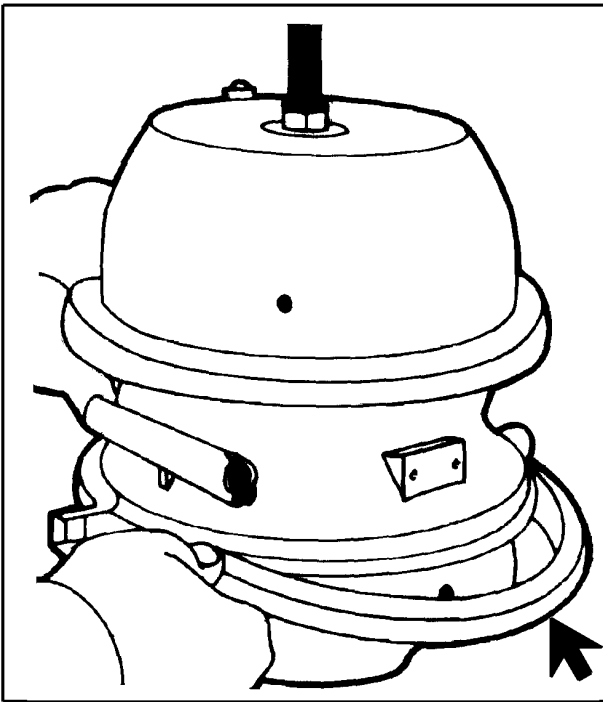
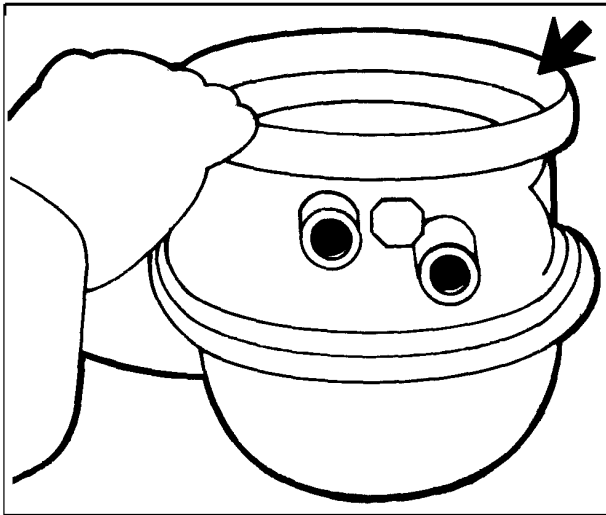

Figure 19 Remove Service Brake Clamp Ring
Figure 20 Install New Diaphragm
4. Use a 9/16-inch wrench or socket to remove the clamp ring nuts on the service brake clamp ring. Then, while holding the spring brake chamber securely in place, remove the clamp ring to allow removal of the spring brake chamber from the assembly (Figure 19(See Figure 19, page 16)).
5. Position the diaphragm in the bottom recess of the chamber (Figure 20(See Figure 20, page 17)) and, with very close attention taken to assure all mating parts are aligned straight and the air inlet ports are positioned to mate with the vehicle air supply lines, replace the service brake clamp ring (Figure 19(See Figure 19, page 16)).